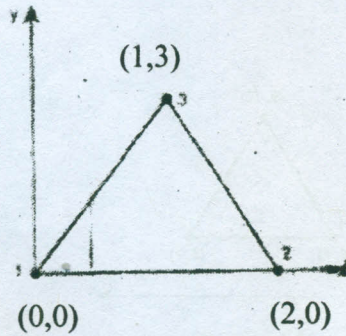

Figure 3
13. (a) Calculate the element stiffness matrix and the temperature force vector for the plane stress element shown in fig. 3. The element experiences a 20°C increase in temperature. Assume coefficient of thermal expansion is $6 \times 10^{-6} \text{ C.}$. Take $E = 2 \times 10^5 \text{ N/mm}^2$, $\nu = 0.25$, $t = 5 \text{ mm}$. (16)